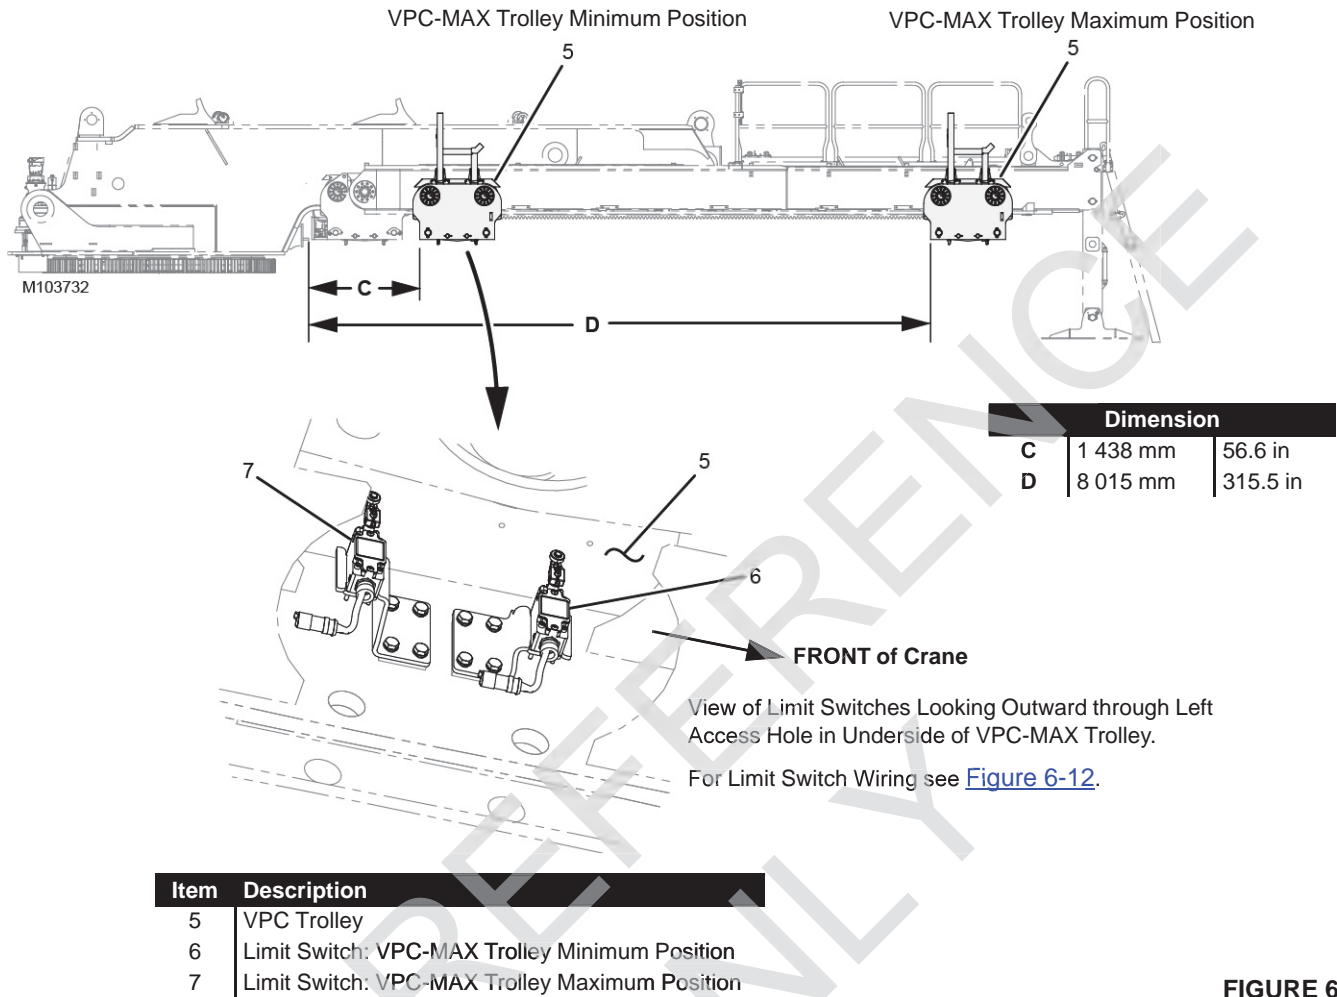

FIGURE 6-16
1. Verify that both limit switch levers are installed parallel to the VPC trolley limit switch housings as shown in Figure 6-16. **The levers must be positioned straight up-and-down on the shafts.**
- b. Using the switch on the remote control, position the VPC-MAX trolley (5, View C, Figure 6-16) at dimension C.
- d. Using the switch on the remote control, position the VPC-MAX trolley (5, View D, Figure 6-16) at dimension B. Follow with the assist crane while performing this step.